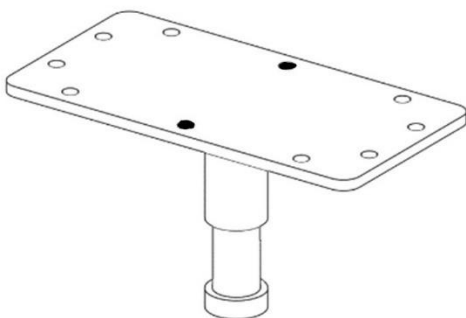

Figure 7: Ceiling Plate Installation
The **Ceiling Plate** has ten (10) holes but only two (2) holes are directly across from each other as shown in Figure 7. It is recommended to use at least the two holes marked in Figure 7 that are in a straight line for standard wood joist installation.